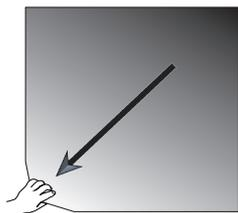

Figure 99: Adhesive Mat: Lift and Pull Mat Away to Remove
1. To release the adhesive mat, lift it on one side and pull it slowly away from the platform, as shown in Figure 99.